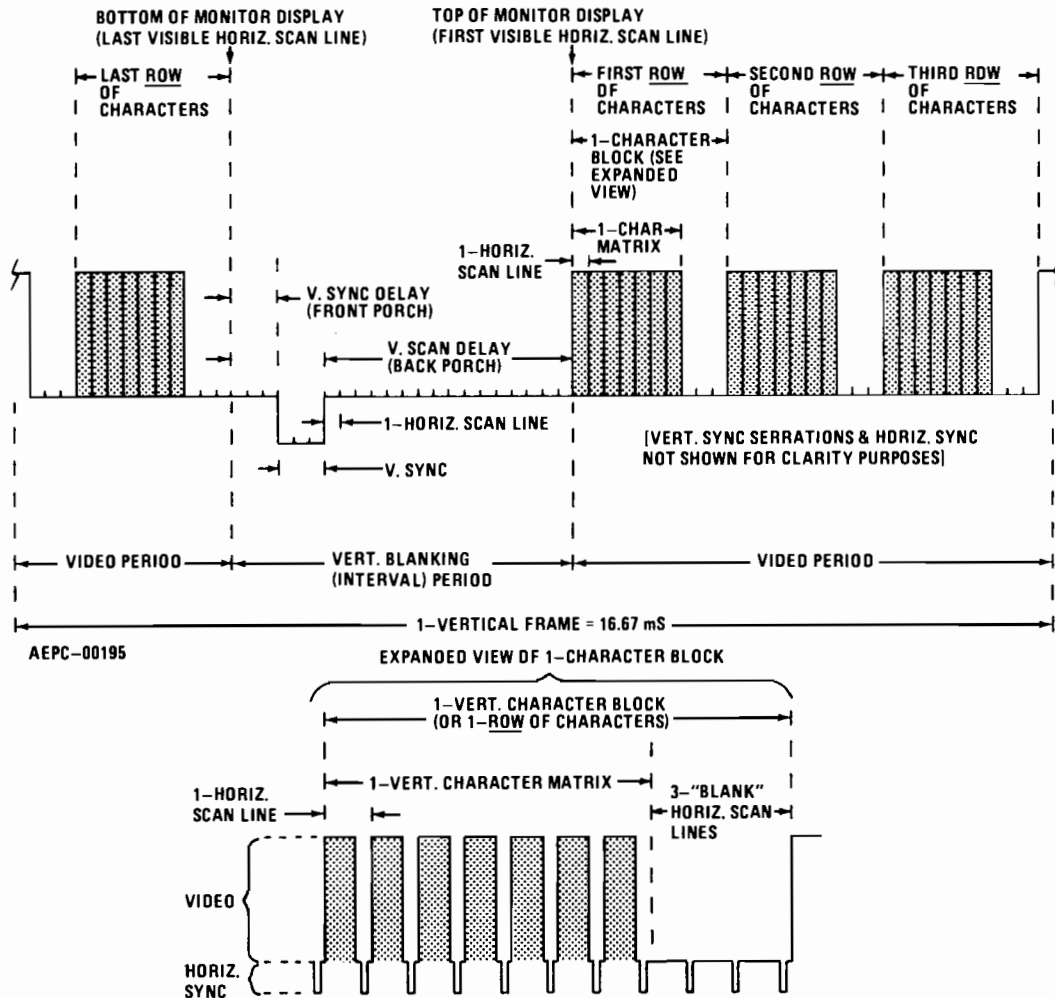

Figure 3. Terminology of a Composite "Alphanumeric Character" Video Signal at a Vertical Rate
Figure 3, page 5, illustrates one non-interlace vertical frame of a composite "alphanumeric" character video signal at a vertical (refresh) rate. A non-interlace frame consists of an even number of 262 horizontal scan lines. An interlace frame consists of an odd number of 525 horizontal scan lines. For the purpose of clarity, only the non-interlace format will be described here. Several new terms are apparent in Figure 3 and are defined as follows:
These three terms represent the structure and spacing of the alpha numeric characters which occur during the video period (as shown in Figure 3). The expanded view illustrates a further breakdown of one vertical character block, which also represents one (1) row of characters. In addition, horizontal sync pulses are shown.